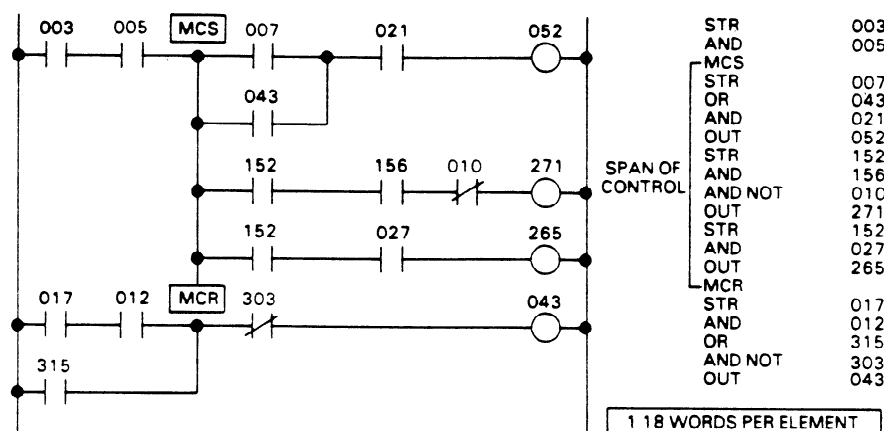

Figure 5-13. Example of Master Control Relay Logic
Figure 5.13 illustrates the use of one pair of MCS/MCR functions. In many cases it is convenient to view the MCS function as defining a sub-left power rail whose connection to the main power rail is dependent upon some relay logic. The conditional logic (I003 - I125 in this example) is built first using the normal relay logic. The MCS function is entered without any reference to create the beginning point of the control. Logic is built using normal functions within the control area. Note the duplication of contact 152, which cost only one memory word, there is no need to count or limit the quantity of relay contacts used in PCs. To end the master control, the MCR function is entered returning control to the next power rail to the left and conventional logic can now be built. Unless both references 003 and 005 are energized (ON) in this example, coils 052, 271, and 265 will be OFF. When these contacts are passing power, coils 052, 271, and 265 will respond to their normal logic.